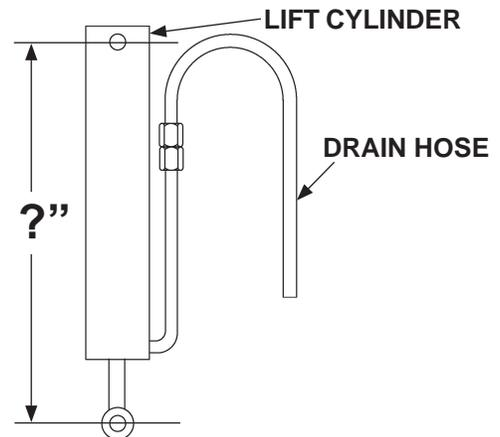

FIG. 21-3
7. Remove plastic plug from line fitting on new cylinder. To prevent fluid spills, fasten a drain hose with 1/4" NPT female end to line fitting on bottom end of cylinder as shown in **FIG. 21-3**. Fully extend cylinder rod. Next, push cylinder rod into cylinder until distance measured between butt-end and rod-end pin bores is the same as distance recorded in **Step 1**.